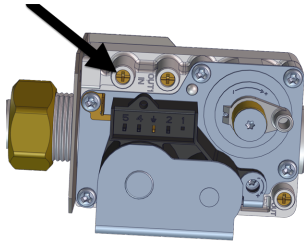

Figure 46 Location of inlet gas pressure test port
1. Shut off the gas supply. You will be measuring the inlet gas supply from the test port (see Figure 46). Do not perform a test from the manifold gas pressure test port.